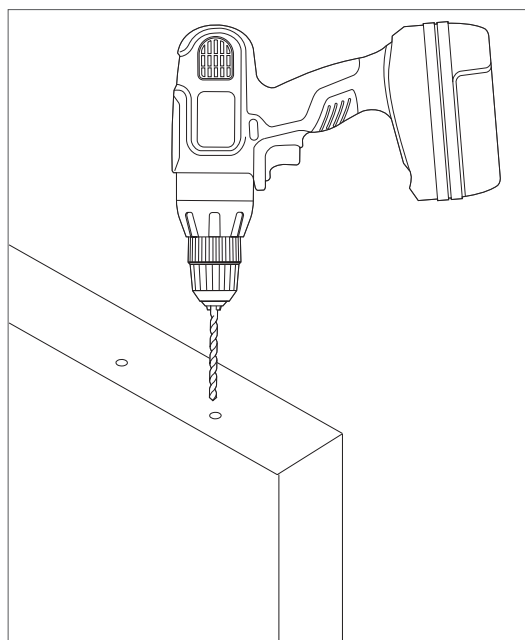

Figure 2
4. Drill two pilot holes for each hanger using an 1/8" bit (Figure 2).